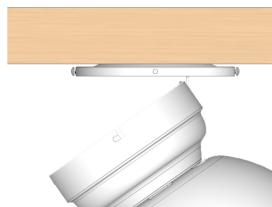

Fig. 4.1
4.1 Carefully lift the fan-motor assembly and hang it using the hook of the mounting plate. Securely suspend the motor assembly by using one of the round holes at the outer rim of the motor housing as shown in Fig. 4.1.